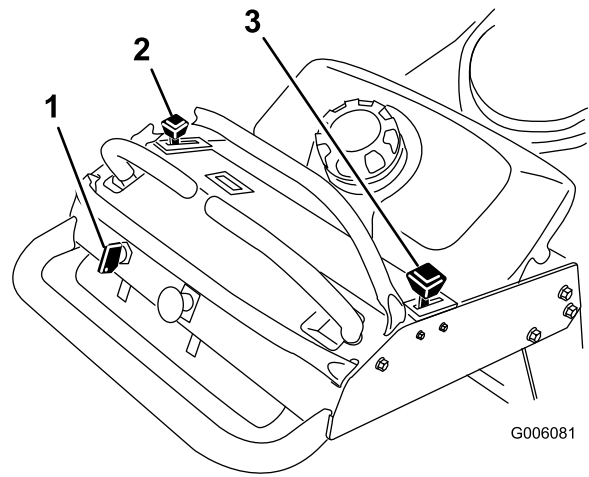

Figure 7
4. Move the throttle control to fast and move the choke lever to the on position before starting a cold engine (Figure 7).
2. Move the throttle lever to slow (Figure 7).